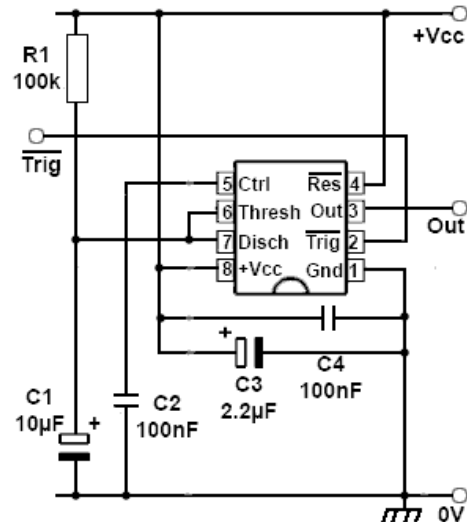

Fig. 4.5.3 555 Monstable Circuit
Fig. 4.5.3 shows a schematic diagram for a basic 555 monostable circuit with an output pulse duration of just over 1 second. Because this circuit is not working at high frequencies, the supply decoupling capacitors C3 and C4 may be considered as optional, but nevertheless it is good practice to make sure the circuit is not affected by external noise by decoupling the 555 supply with a 100nF capacitor (to remove high frequency noise) and an electrolytic of around 2  $\mu$ F (to remove low frequency noise). Both of these capacitors should be fitted as physically close to the 555 IC as possible.
**WARNING:** Be extra careful when connecting electrolytic capacitors to ensure they are connected with the correct polarity, see Fig. 4.5.4 showing negative lead marking on a capacitor, but note that the convention for capacitor symbols in circuit schematic diagrams (e.g. Fig. 4.5.3) is to mark the **positive** plate of an electrolytic capacitor with a + symbol. Fig. 4.5.4 also shows the safe working voltage of the capacitor, which must be high enough to withstand any likely voltage the capacitor will be subject to in the circuit.